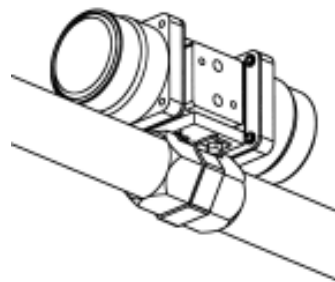

Figure 2
a. Inline- (standard mounting for most actuators) The long axis of the actuator is in-line with the piping. The bracket should be oriented perpendicular to the actuator body. (See Figure 2)